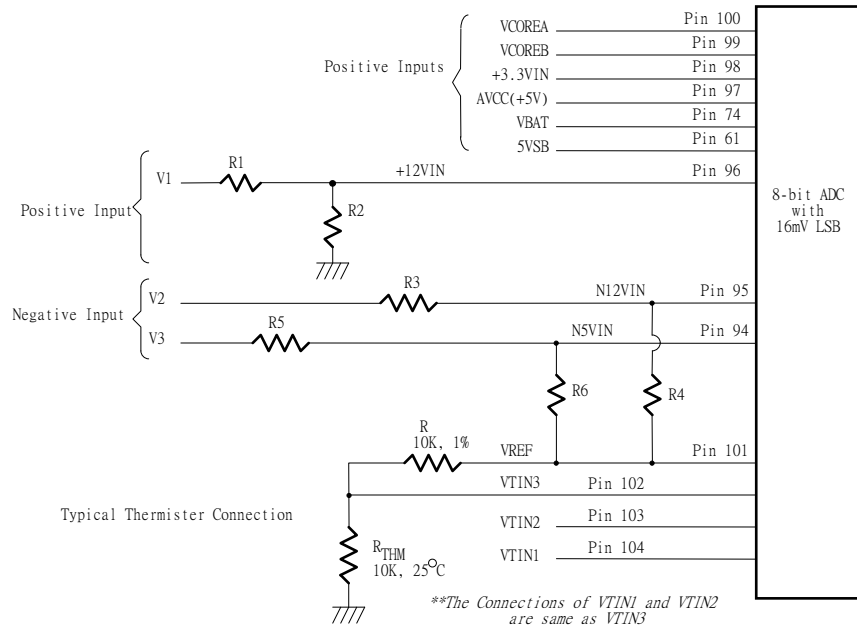

Figure 8.2
The maximum input voltage of the analog pin is 4.096V because the 8-bit ADC has a 16mV LSB. Really, the application of the PC monitoring would most often be connected to power suppliers. The CPU V-core voltage, +3.3V, battery and 5VSB voltage can directly connected to these analog inputs. The +12V, -12V and -5V voltage inputs should be reduced a factor with external resistors so as to obtain the input range. As Figure 8.2 shows.
The negative voltage should be connected two series resistors and a positive voltage VREF (is equal to 3.6V) . In the Figure 8.2, the voltage V2 and V3 are two negative voltage which they are -12V and -5V respectively. The voltage V2 is connected to two serial resistors then is connected to another terminal VREF which is positive voltage. So as that the voltage node N12VIN can be obtain a posedge voltage if the scales of the two serial resirtors are carefully selected. It is recom-manded from Winbond that the scale of two serial resistors are R3=232K ohm and R4=56K ohm. The input voltage of node N12VIN can be calculated by following equation.
The W83627HG can connect three thermistors to measure three different envirement temperature. The specification of thermistor should be considered to (1) β value is 3435K, (2) resistor value is 10K ohms at 25°C. In the Figure 8.2, the themistor is connected by a serial resistor with 10K Ohms, then connect to VREF (Pin 101) .